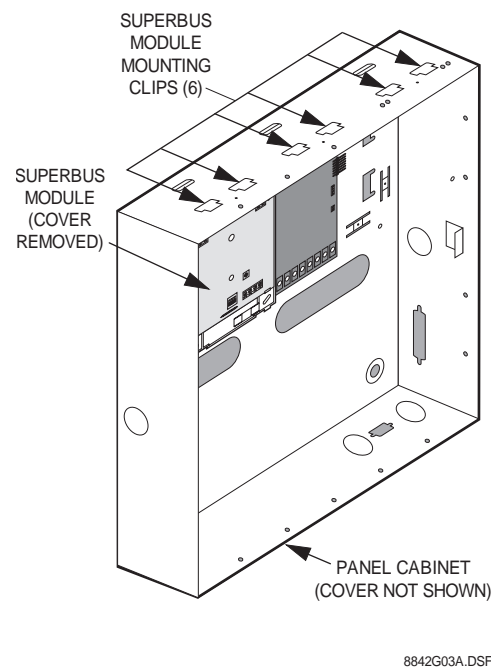

Figure 4. Mounting Module in Concord Cabinet
4. Slide the module backplate onto the two module mounting clips located on the top-left (or top-right) corner of the cabinet (Figure 4.)